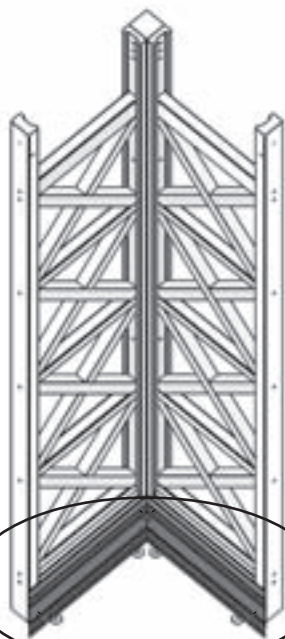

Fig. 4.1
A: Place one (034) Short Plinth B Assembly with one (035) Short Plinth A Assembly tight to each other and attach using two #6 x 30 mm Trim Screw at the opposite corners per Plinth. (Fig. 4.1 and 4.2)